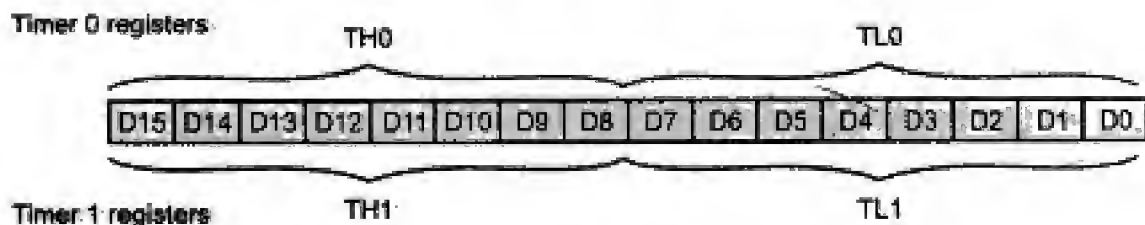

Fig. 9.1 Timer 0 and Timer 1 registers
8051 has two timers, timer 0 and timer 1. Basically both, timer 0 and timer 1 are 16-bit registers. Since 8051 is an 8-bit microcontroller, each 16-bit register can be accessed as low-byte register (TL) and high-byte register (TH). Fig. 9.1 shows the timer 0 and timer 1 registers. These registers can be accessed like other registers (A, B, R0, R1 etc.) in 8051.